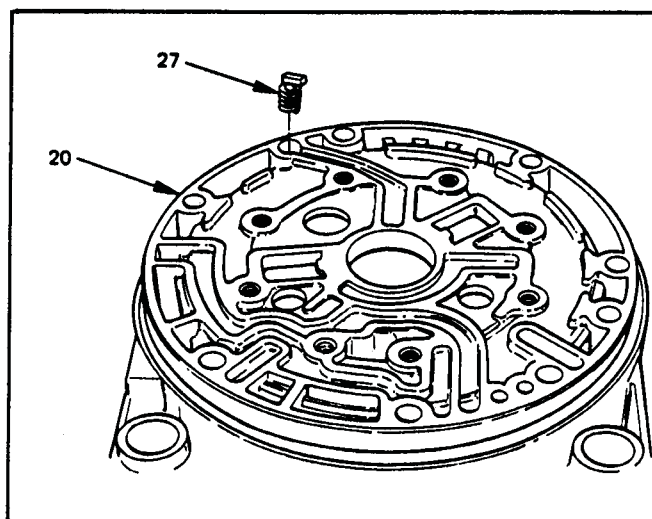

Figure 59
8. Install spiral capillary restrictor into overdrive lube channel in the adapter case as shown in Figure 59.